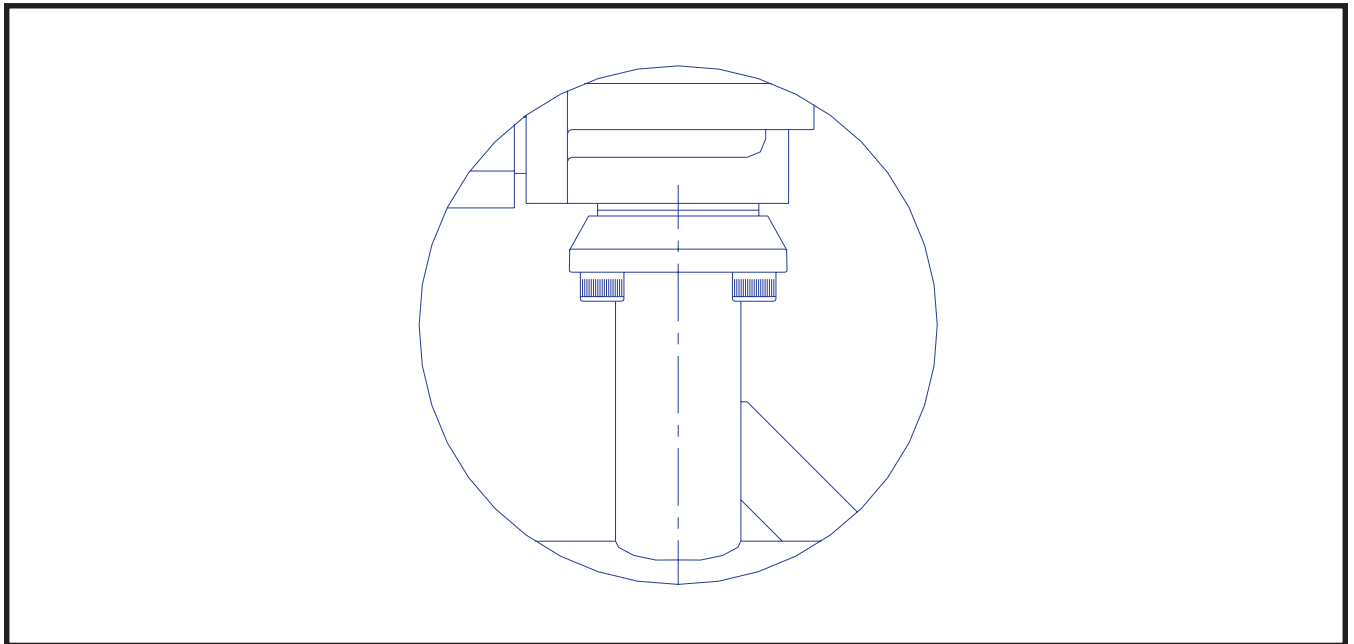

Figure 4. Set replacement compressor and motor assembly on separator flange.
4. Set the replacement compressor and motor assembly on the separator flange and align the oil separator flange bolt holes to the compressor discharge flange bolt holes while supporting the assembly with a hydraulic piston underneath the motor. Reference Figure 4. The hydraulic piston must support the motor weight plus $\frac{1}{2}$ the compressor weight. Reference appendix A and B for motor and compressor weights. Follow the guidelines as outlined in step 7 of the motor mounting procedure above.